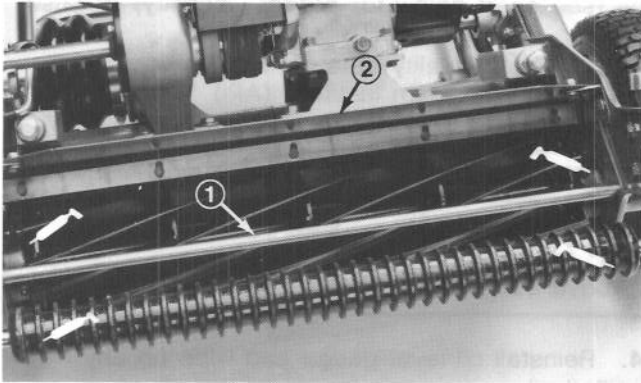
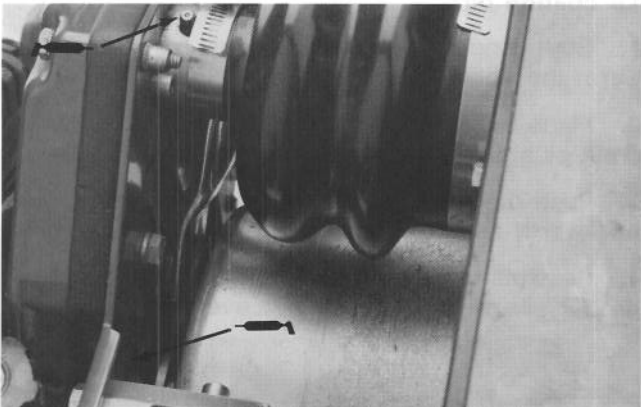
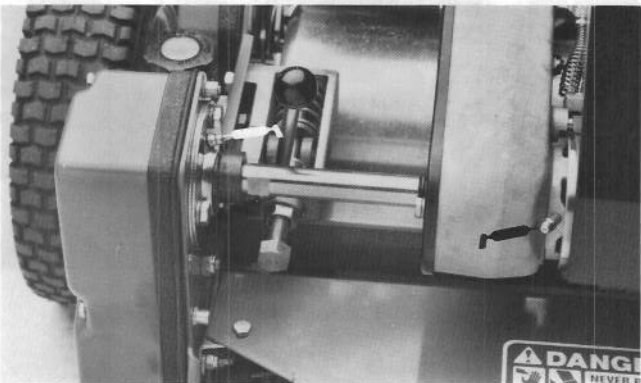
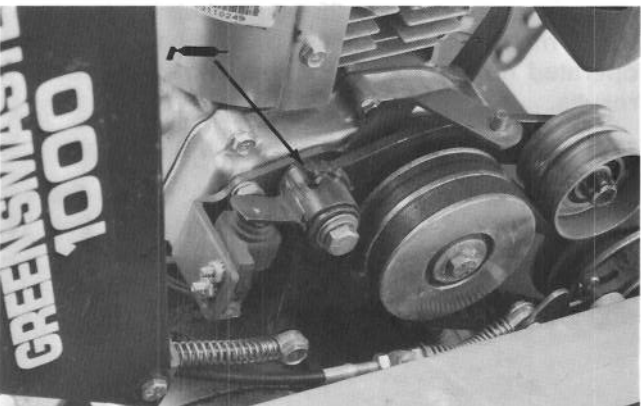

Figure 26
Figure 27
Figure 28
Figure 29
2. The grease fitting locations are: (2) on Front Roller (Fig. 26), (2) on reel bearings (Fig. 26), (2) on Drum Axles (Fig. 27), (3) on Differential (Fig. 27), (2) on Reel Countershaft Bearings (Fig. 28) and (1) on Belt Idler Pivot (Fig. 29).